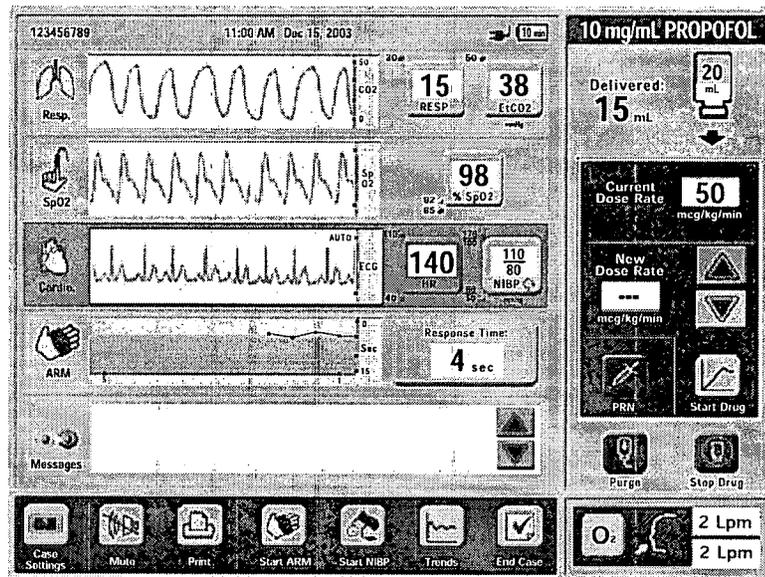

Figure 7-14 PRU Monitoring Screen During Red Alarm That Takes No Drug Action
- The general background field and the shortcut button for the patient physiologic parameter that is causing the alarm change to red. In Figure 7-14 on page 7-14 below, the example shows the changes for a heart rate alarm.